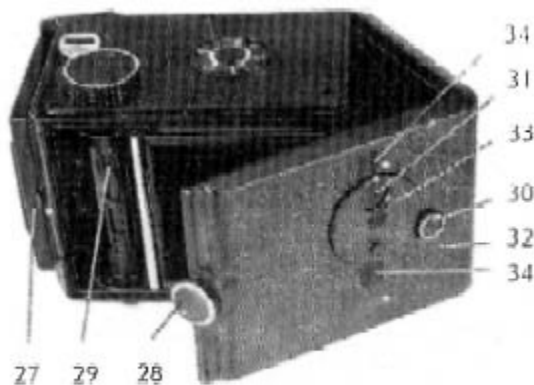

Fig. 6
Taking the camera in your left hand, open the camera back turning for this aim lock head (28)[Fig.6] until the index on the head and the dot on the body are matched.
Depending on picture size chosen (4.5 \* 6 or 6 \* 6 cm), turn turret (33) [Fig.6] until window (31) is adjusted at respective index (34).